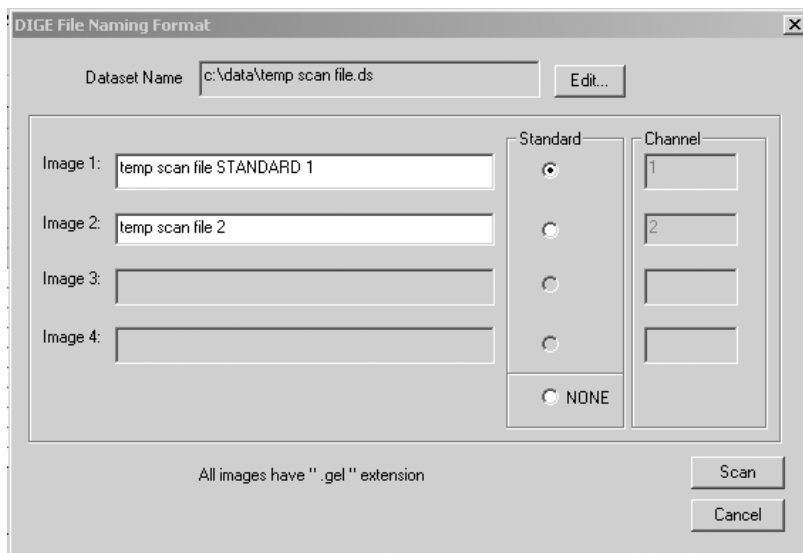

Figure 12-7. The DIGE File Naming Format window.
6. (Optional) If you want to change the dataset name or the individual file names, click the file name that you want to change and then click the **Edit Sample File Names** button. The DIGE File Naming Format window appears and displays the default names for each image of the multichannel image (figure 12-7).